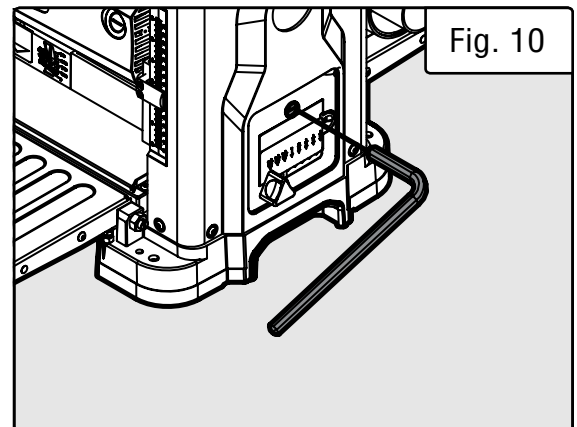

Fig. 10
3. Insert the included hex wrench into the hole above the depth stop label (Fig. 10; adjust the height of the rollercase if necessary). Use the hex wrench to turn the cutterhead, so the blades are easily accessible. The cutterhead lock will automatically engage when the cutterhead is in the right position.